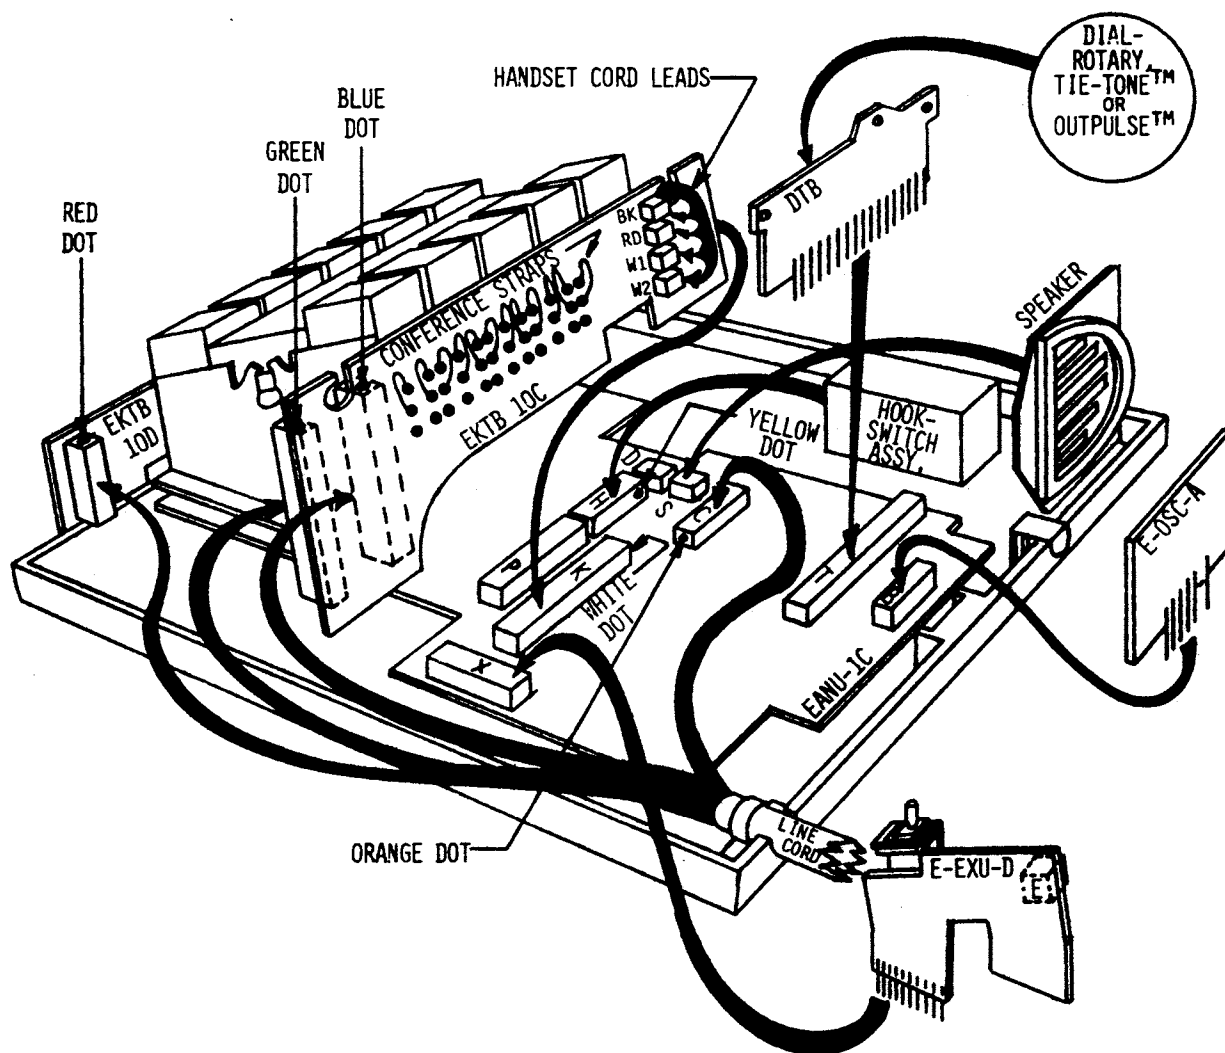

Figure 2.2 - E-100-C Key Telephone Set, Internal Layout
- a) The EANU-1C board mounts to the base of the set and other assemblies plug into it. Refer to Figure 2.2 for the location of the connectors on the EANU-1C board.